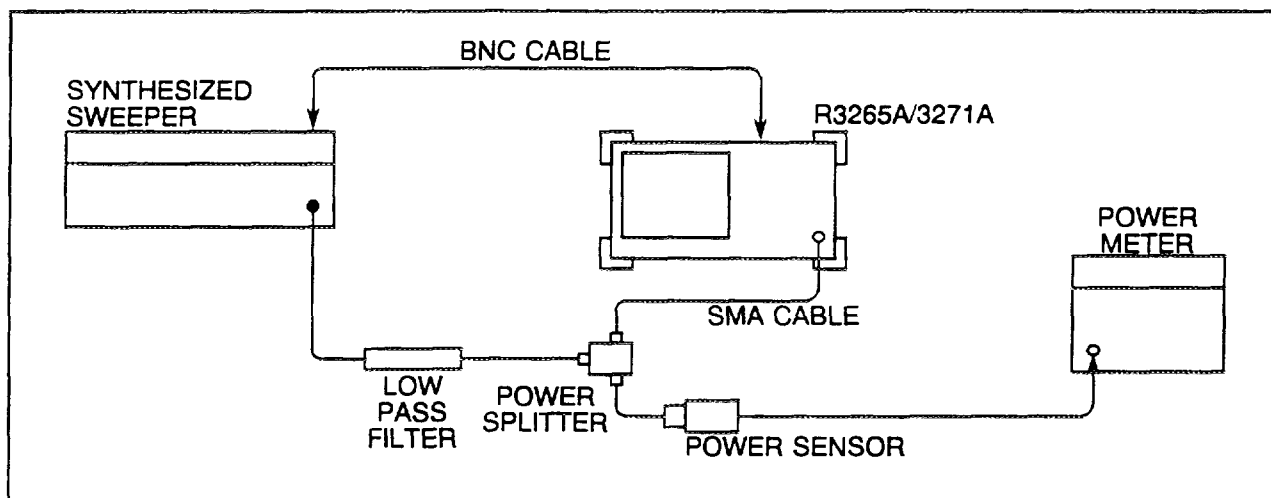

Figure 4-11 Second Harmonic Distortion Test Setup
(1) Zero and calibrate the power meter. Rotate the CAL FACTOR switch to the power sensor's 1.5 GHz calibration factor.
(2) Connect the equipment as shown in Figure 4-11.
(3) Press the INSTR PRESET key on the TR4515. Set the TR4515 controls as follows:
- (13) Connect the equipment as shown in Figure 4-11.
- (14) Rotate the CAL FACTOR switch to the power sensor's 1.9 GHz calibration factor.
- (15) Set the TR4515 key for a 0 dBm ± 0.1 dB reading on the power meter.
(16) Set the R3265A/3271A center frequency to 1.9 GHz and span to 1 kHz.